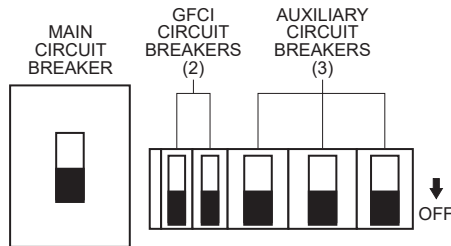

Figure 19. Main, Auxiliary, And GFCI Circuit Breakers (OFF)
2. Place the **main, auxiliary, and GFCI** circuit breakers (Figure 19) in the **OFF** position.
2. Place the **main, auxiliary, and GFCI** circuit breakers in the **OFF** position as shown in Figure 19.